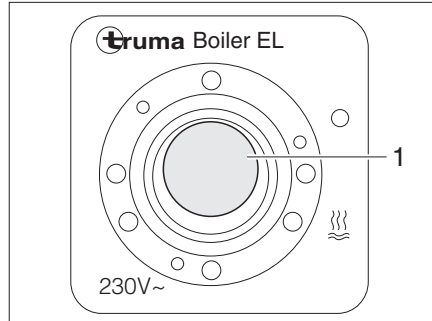

Fig. 129 Flip switch for Truma boiler (240 V electrical operation)
- Set the flip switch (Bild 129,1) to on. The indicator lamp on the switch is illuminated. The water in the boiler is heated up to 65 °C.
- Set the flip switch (Bild 129,1) to "O". The indicator lamp on the switch goes off.
- Set the rotary switch (Bild 128,3) on the operating unit (Bild 128) to "O" (Bild 128,4) or the flip switch (Bild 129,1) to "O".